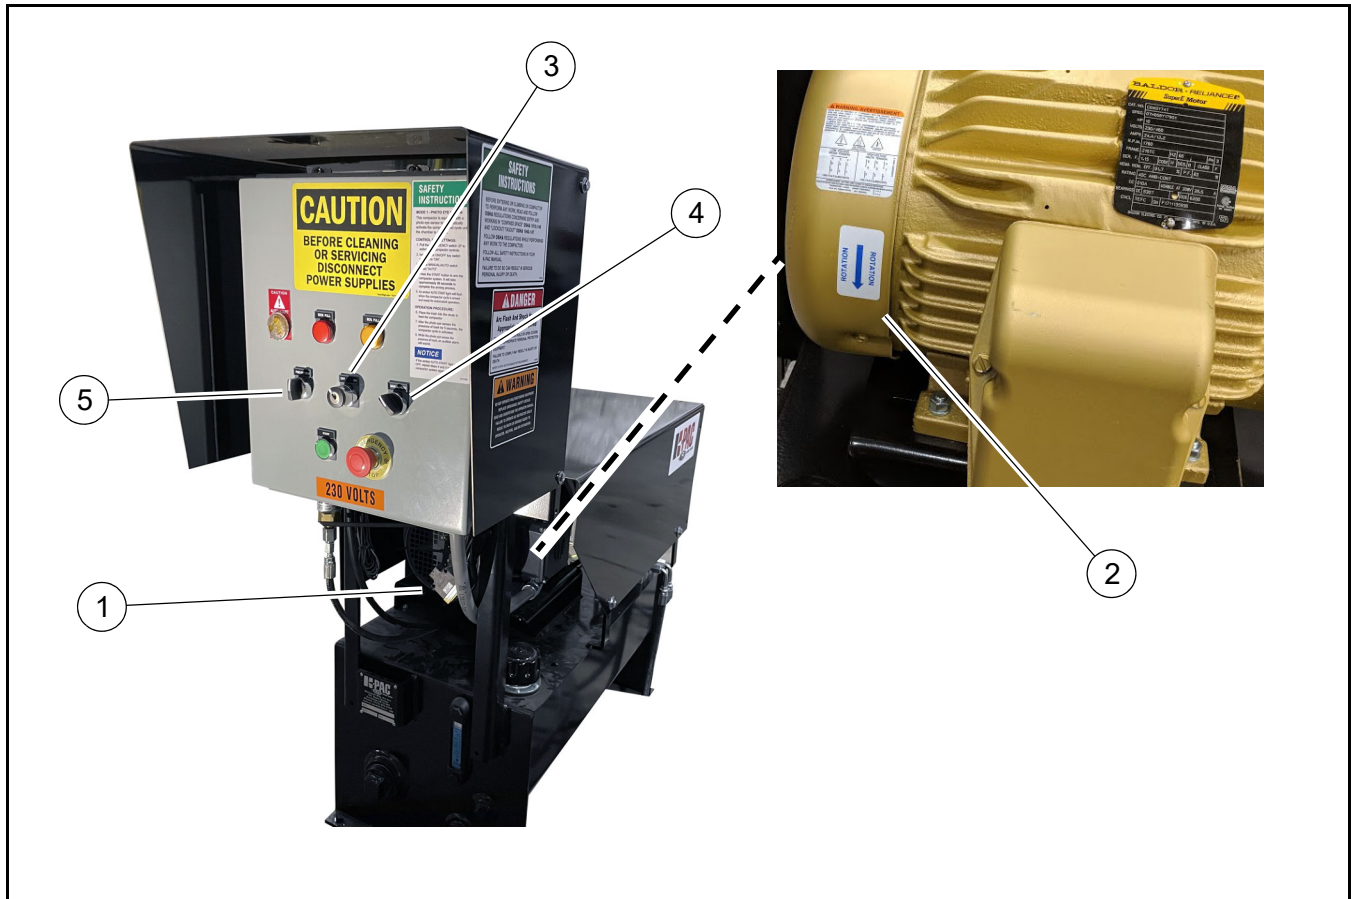

Figure 15
6. Locate the fan cover (**Figure 15, 1**) for inspection of the motor fan to identify motor rotation.
7. Identify label (**Figure 15, 2**) on fan cover to determine the correct motor rotation.
8. Turn the key-locked OFF/ON Switch (**Figure 15, 3**) to the ON position to enable the compactor controls.
9. Turn the MANUAL /AUTO Switch (**Figure 15, 4**) to select the MANUAL mode.
10. Quickly turn the FWD/OFF/REV Switch (**Figure 15, 5**) to the FWD position and back to OFF and stop the motor.